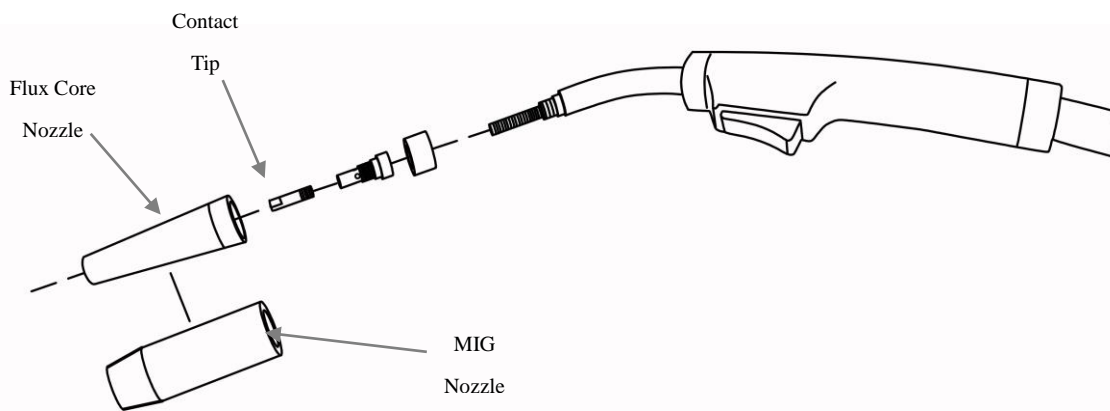

Figure 3
- 5.2.1 Remove the nozzle and contact tip from the end of the torch assembly. See Figure 3.